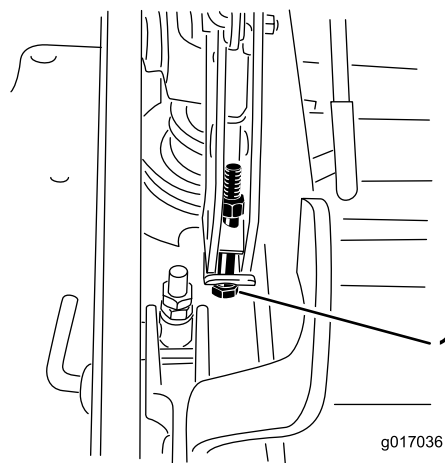

Figure 76
13. If the deck is too low, tighten the single-point adjustment bolt by rotating it clockwise. If the deck is too high, loosen the single-point adjustment bolt by rotating it counterclockwise (Figure 76).